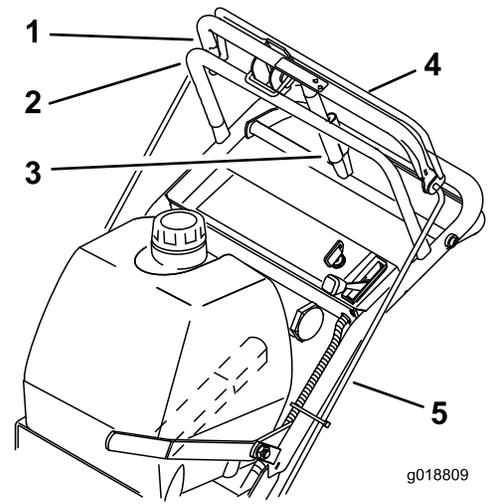

Figure 22
- Check the gap between the upper control bar and the fixed bar with the wheel drive fully engaged. The gap will need to be approximately 25-32 mm (1 to 1-1/4 inches) (Figure 22).